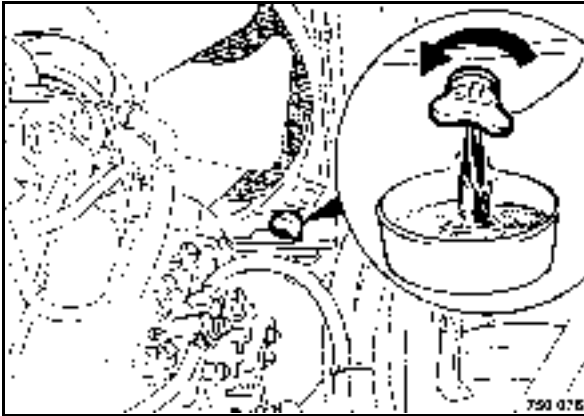

Fig. 130
- Unscrew the drain valve (Fig. 130) from the radiator.